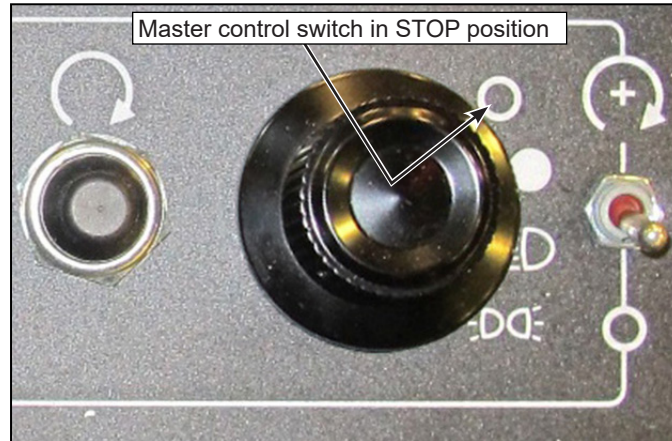

Figure 1 - Master Control Switch in STOP Position
- 1.2. Set the Master Control Switch in the STOP position (see Figure 1).